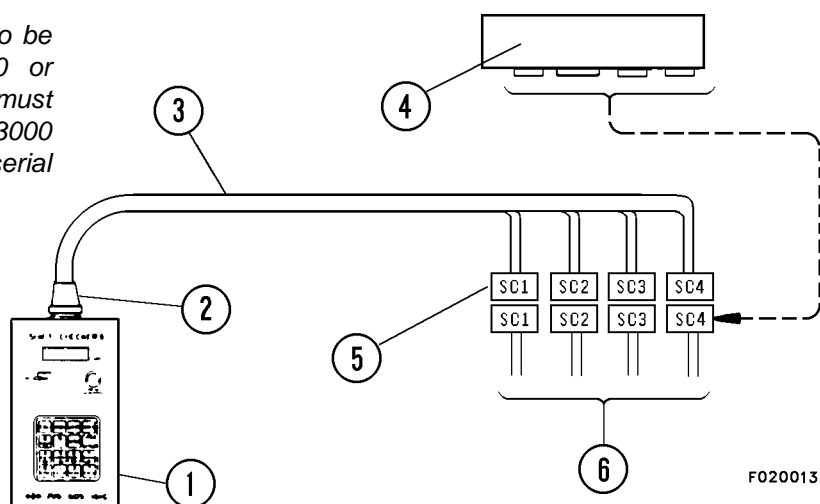

FIGURE 2-21. SHIFT CHECKER INSTALLATION
2. Install the shift checker (Refer to Figure 2-21):
- a. Disconnect the chassis harness (6, Figure 2-21) from the transmission control box (4).
- b. Connect shift checker harness (3) (white connectors) to the truck chassis harness connectors (SC1, SC2, SC3 & SC4) removed in step a.
- c. Be certain shift checker power switch is Off. Connect harness (3) black connector to shift checker.
7. Press the 4th range button again to return to neutral (N). Turn shift checker power switch Off.
- a. Disconnect harness connectors (5, Figure 2-21) from chassis harness (6) and remove shift checker.
- b. Reconnect chassis harness connectors to transmission control box (4).